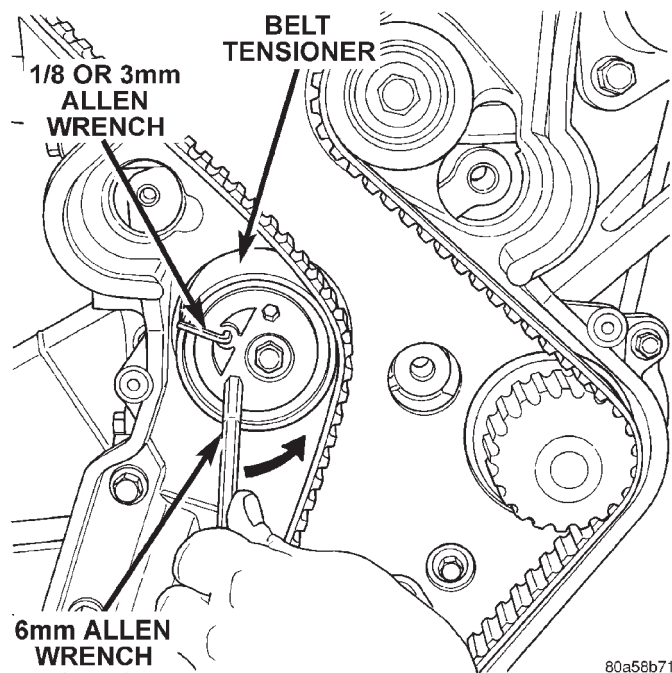

Fig. 60 Locking Timing Belt Tensioner
- (10) Install 6 mm Allen wrench into belt tensioner. Before rotating the tensioner, insert the long end of a 1/8" or 3 mm Allen wrench into the pin hole on the front of the tensioner (Fig. 60). While rotating the tensioner counterclockwise, push in lightly on the 1/8" or 3 mm Allen wrench, until it slides into the locking hole.